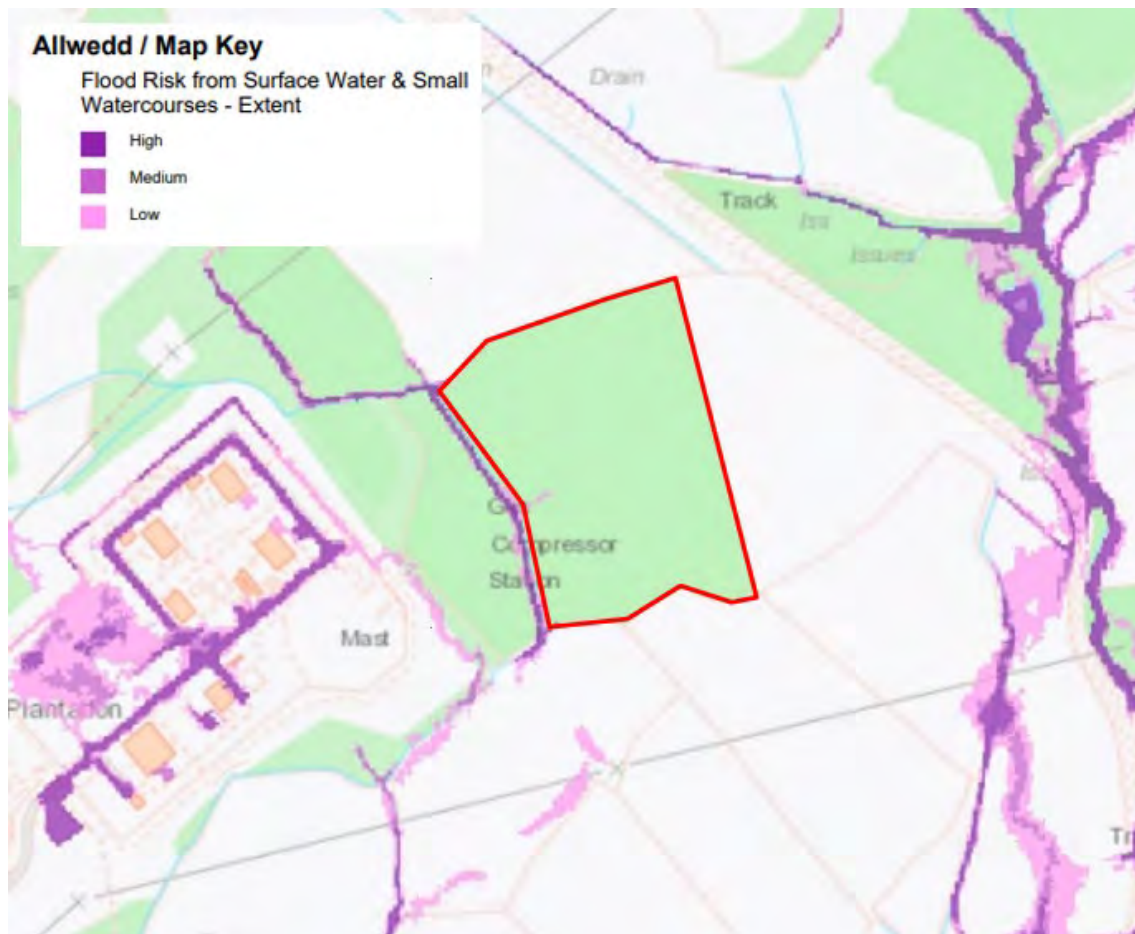

**Figure 2. NRW Fluvial Flood Risk Map**
3.2.1 The 'Development Advice Map' for flood risk obtained from the Natural Resources Wales website (see Figure 2) shows that the site is located within Zone A, described in TAN15 as an area '*considered to be at little or no risk of fluvial or tidal/coastal flooding*'.